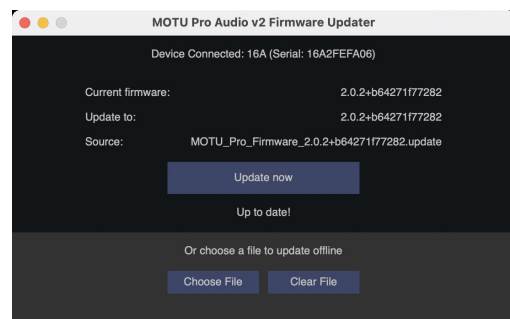

Figure 6-18: The 16A Firmware Updater app.
☞ This step requires that the unit already has firmware version 2.1.5 or later. If not, use the Firmware Updater app (Figure 6-18 on page 56), accessed from the File menu.
- 1 Choose *File menu > Open Firmware Updater* to launch the updater app (Figure 6-18).
- 3 Once the firmware image is loaded, click the *Update Now* button (Figure 6-18).